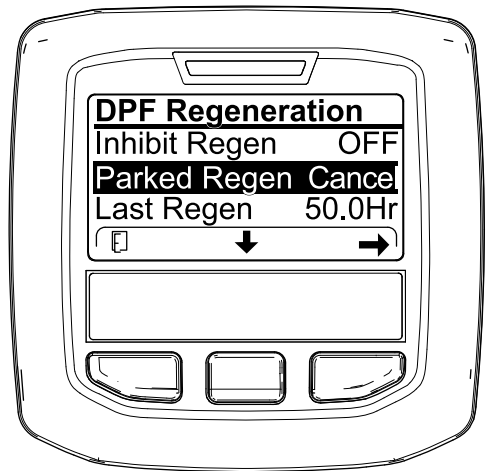
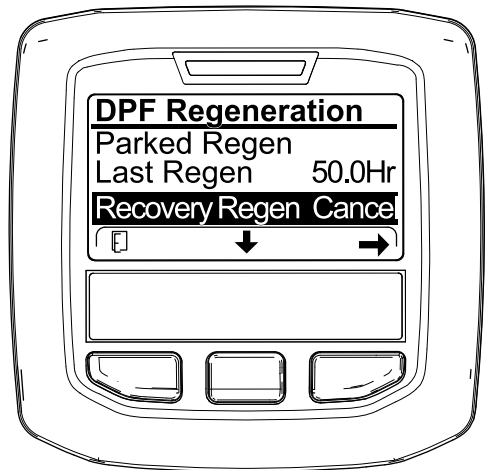

Figure 87
Figure 88
1. Access the DPF Regeneration menu (Figure 87).
2. Press the center button to scroll down to the PARKED REGEN CANCEL (Figure 87) or the RECOVERY REGEN CANCEL option (Figure 88).
3. Press the right button to select the Regen Cancel entry (Figure 87 or Figure 88).